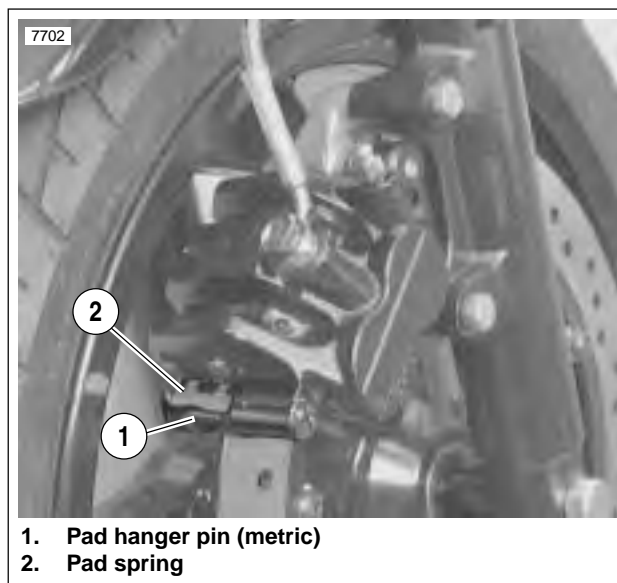

Figure 2-38. Pad Spring
- a. Remove pin plug (5).
- b. See Figure 2-38. Remove pad hanger pin (1) (metric).